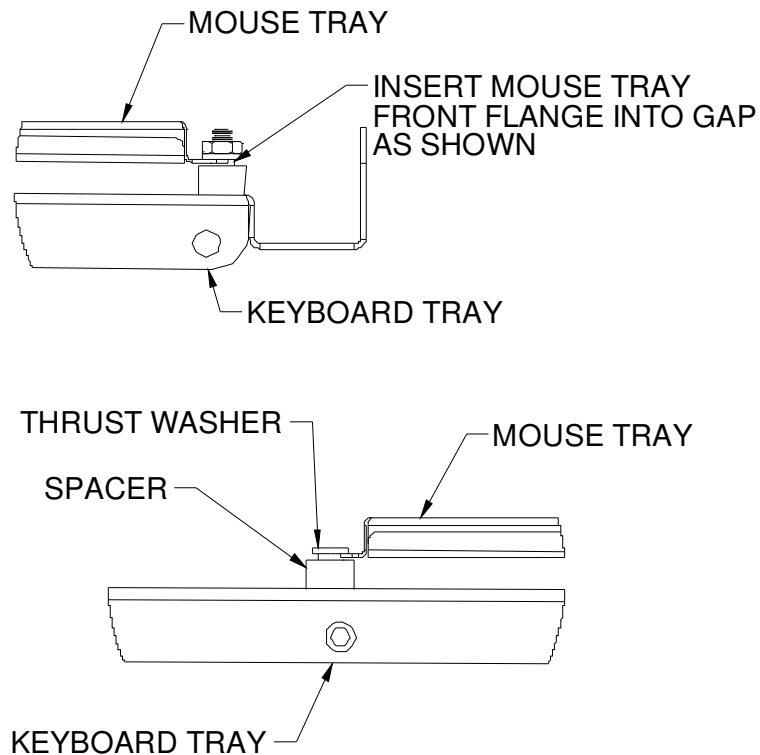

Figure 4
- Slide Spacer so it is flush against the bottom of the Keyboard Tray (creating a space between the head of the Thrust Washer and the Spacer) See Figure 4 below
- Insert Rear edge of Mouse Tray (the rear is straight across entire flange) into the gap between the Thrust Washer and Spacer as shown in Figure 4.
- In the Front of Mouse Tray, position rear flange of Mouse Tray in the gap of Thrust Washer and Spacer (see Figure 4) and align the Thrust Washer and Spacer with either the middle or end hole.